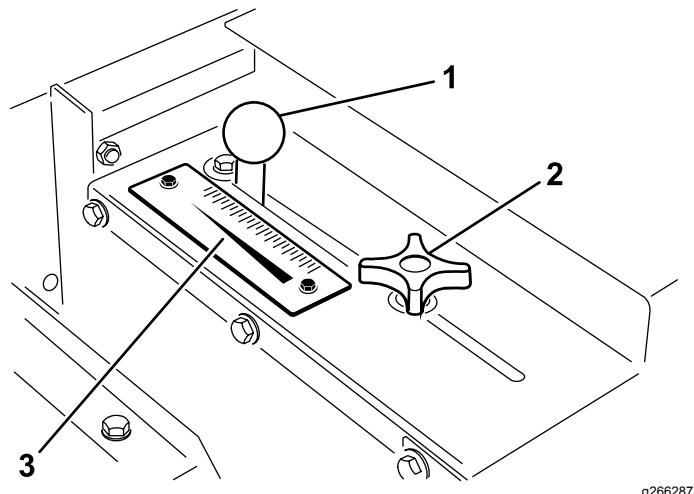

Figure 19
1. Loosen the locking knob (Figure 19) enough to allow it to slide freely in the slot.
2. Set the gate knob (Figure 19) into the desired position and tighten the locking knob to secure the adjustment.
Use the rate scale (Figure 19) to determine the desired flow rate. Refer to Sand Application Rate \(page 18\).